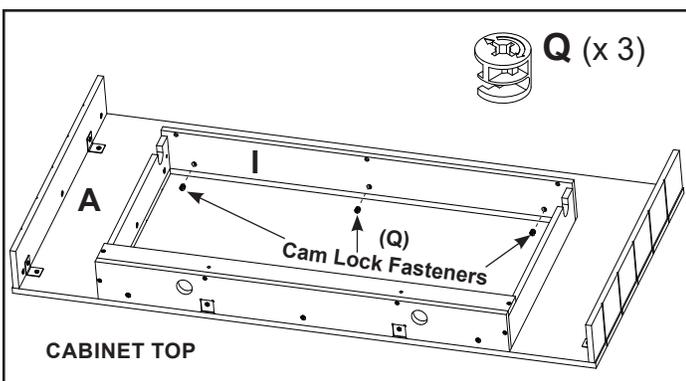

Figure 23
- Install three (3) Cam Lock Fasteners (Q) into part "I" with the arrows in the orientation shown on page 2 and Figure 23.
- Turn each of the three (3) (Q) Cam Lock Fasteners (Q) clockwise 1/4 turn. Refer to Step 4 and Figure 23.